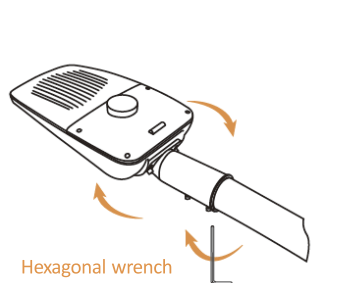

Figure 3
### ③ Adjust the angle as shown in Figure 3.